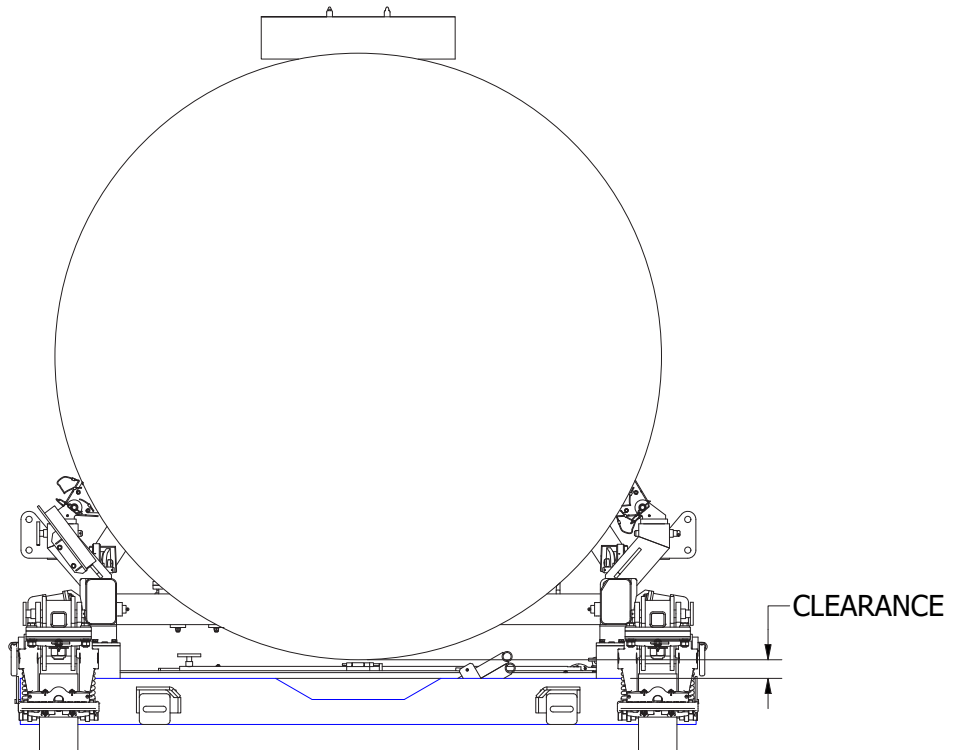

Figure 4.1-2
- 1). If engine is loaded on the stand, visually check distance between the engine and the upper surface of the forward fork tube to ensure enough clearance as shown in Figure 4.1-2.